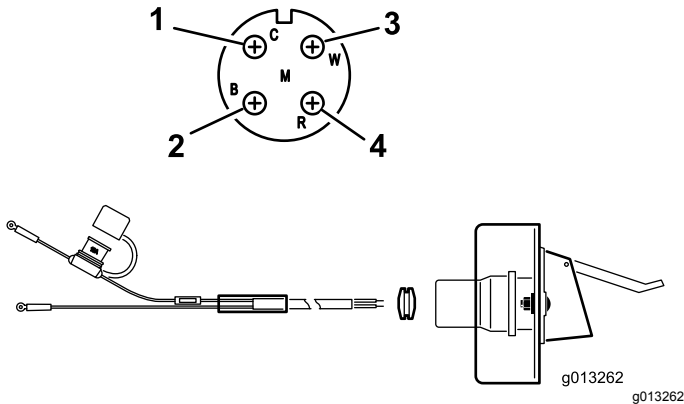

Figure 9
2. Route and secure the electrical wiring from the battery to the electrical plug bracket (Figure 9).
3. Feed the wiring through the socket bracket and install the black rubber grommet over the wiring (Figure 9).